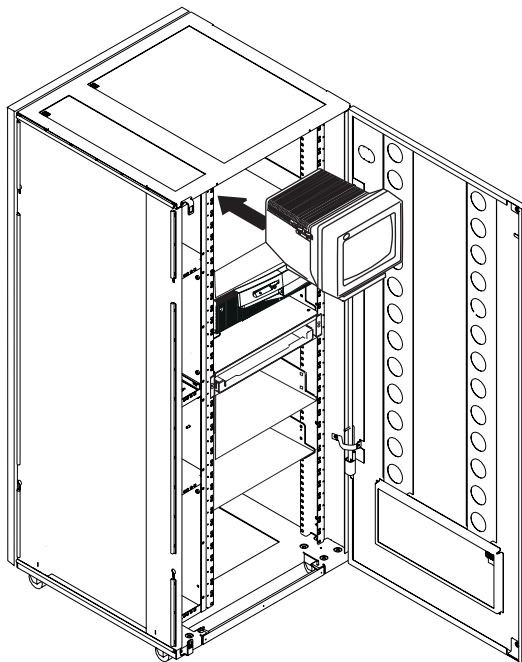

Figure 8. Installing the Display in the Controller Expansion (Front Side)
- \_\_\_ 13. Slide the display screen into the Controller Expansion (at the top) (see Figure 8).